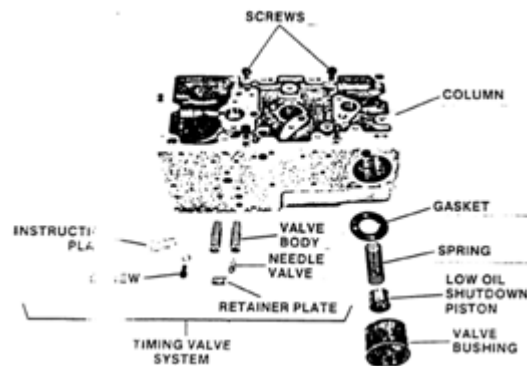

Figure 5-16. Low-Lube-Oil System and Timing Valve System
16. Remove low-lube-oil valve bushing, piston, spring, and gasket (Figure 5-16).
18. Remove 4 screws and separate column from power case (Figure 5-16).